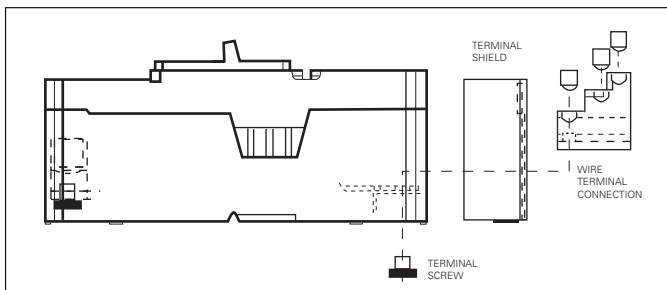

Fig. 1 Typical K-Frame Circuit Breaker Installation
If circuit breaker is installed in equipment, it **MUST** be removed from equipment for installation of this kit. This kit is intended for use **ONLY** on the **LOAD END** of the circuit breaker. See Figure 1.
2. Install terminal to each pole with provided mounting screw as shown in Figure 1.
3. Install molded insulator to the breaker, as shown in Figure 1.